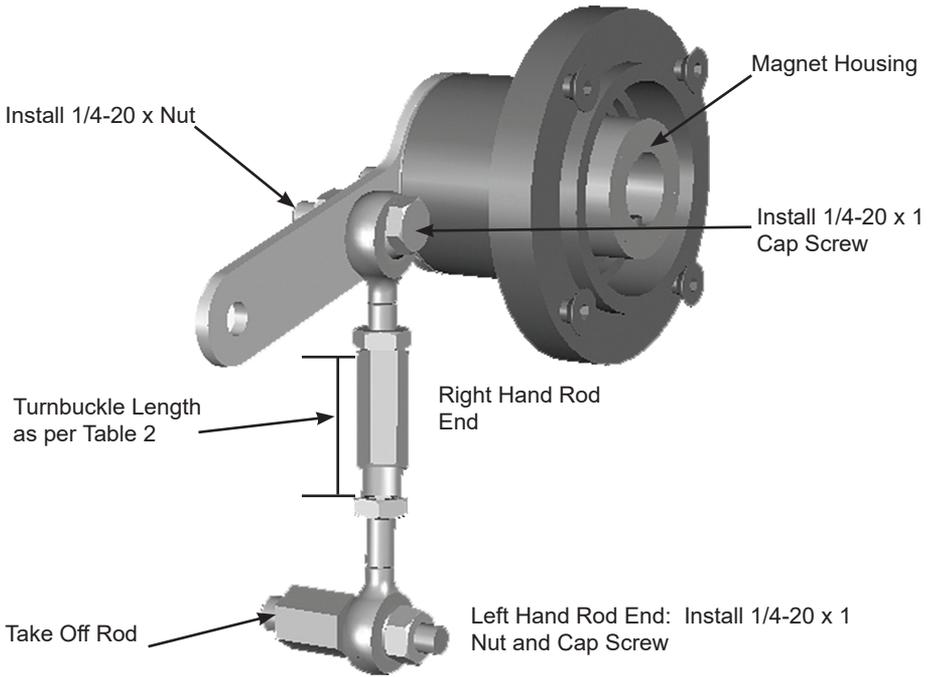

Figure 18 - SVI II APN Take Off Rod Mounting
3. Select mounting hole for the stroke of the valve. For example, hole B is shown in Figure 18 on page 28 for a size 10 actuator with 1.0" stroke. Unless otherwise specified, the SVI II APN mounting assumes that the actuator is in the normal upright position. The mounting hole in the slotted opening of the mounting bracket must be left when facing the actuator, with the actuator in the upright position.
4. Thread the take-off rod to the actuator stem connector (Figure 18).
5. Attach the right hand threaded rod end to the SVI II APN lever using a 1/4 - 20 x 1" cap screw and nut (Figure 18).
10. Thread the turnbuckle onto the left hand threaded rod end (Figure 18).
11. Adjust the turnbuckle until the hole in the SVI II APN lever is aligned with the indicating hole in the bracket. Tighten both turnbuckle lock nuts (Figure 18).